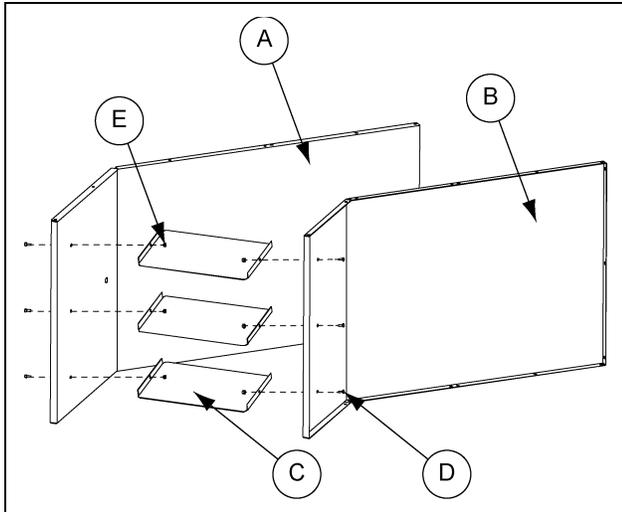

Figure 6A
1. Attach duct vanes (C) to the duct exit large side (A) and duct exit small side (B) using two (2) flange bolts (D) and flange nuts (E) per each duct vane. (See Figure 6A.)